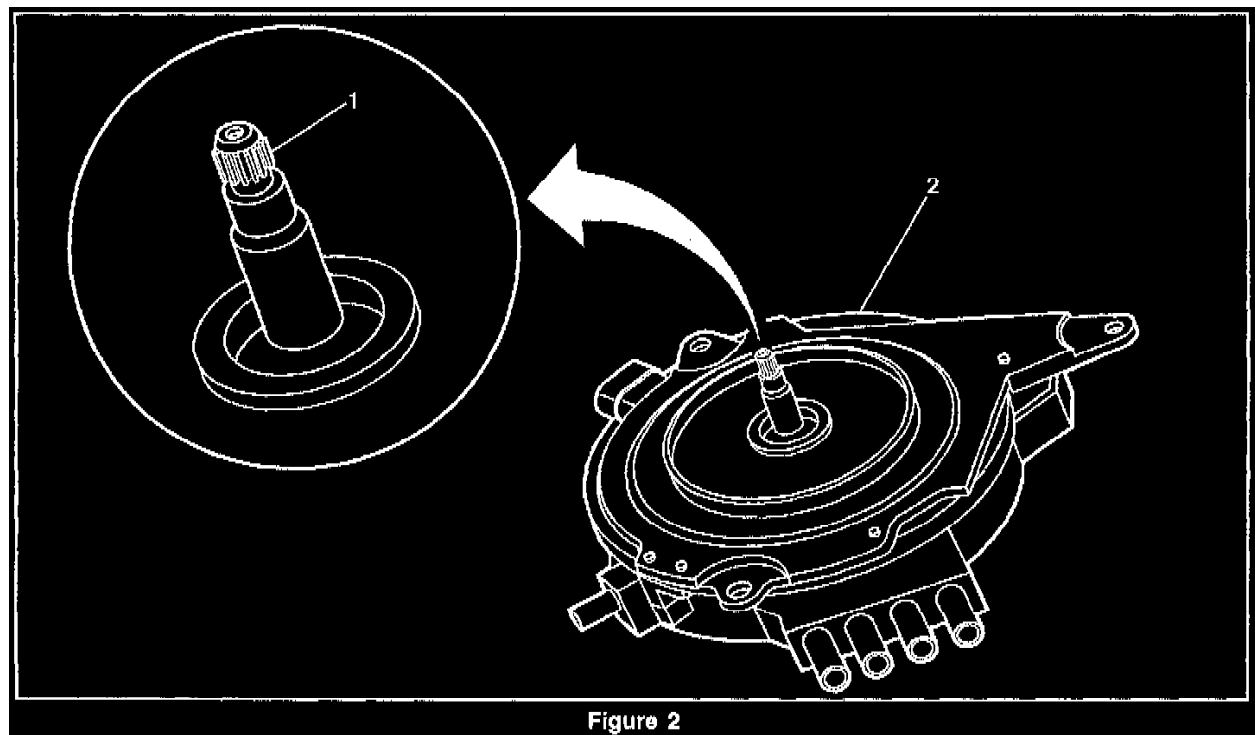

Figure 2
2. Opti-Spark Distributor I (Splined Drive - WITHOUT positive vent system) can be identified by the splined pin drive (1), or the lack of intake manifold vacuum hose connection and air intake duct hose connection. Refer to Figure 2.